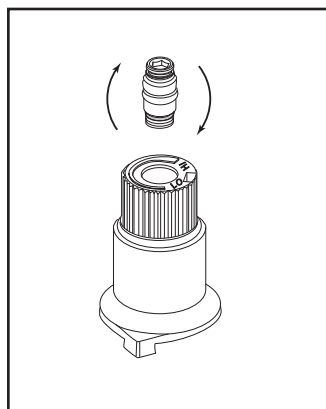

Figure 7.4
- Check that the screw is clean and if necessary remove dirt. Flip the screw. (Figure 7.4)